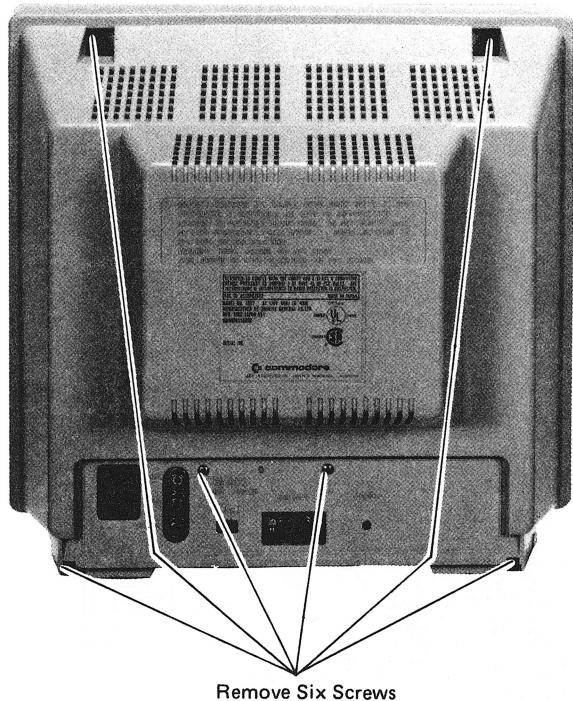

Fig. 3
3.1 Chassis Removal (See Figs. 3/4)
1. Remove the six screws securing the rear cover of the cabinet. (See **Fig. 3**)